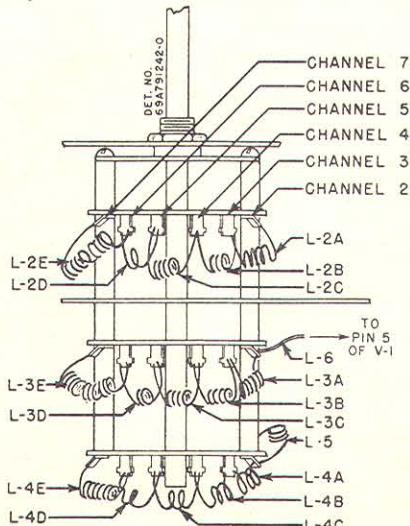

FIGURE 7. ANTENNA, RF & OSCILLATOR COILS
5. Set the generator to the oscillator frequency of channel 10 (170.35 mc) and adjust the oscillator trimmer (C-11) for zero beat viewed on the oscilloscope. Zero beat is indicated by the sharply defined trace that appears between the two wide traces as the trimmer is tuned through resonance. (See Figure 8 for oscillator frequencies.) Check all high channels (7-13) to determine if zero beat occurs with fine tuner within 22-1/2 degrees of mid-setting. It may be necessary to adjust coil L-5 (high band oscillator coil, Figure 7) to bring channel 13 within this range. Adjustment is made by compressing or spreading the coil with an insulated screwdriver. If L-5 is adjusted, it may be necessary to retune trimmer to channel 10 to bring channels 7 to 10 within the 22-1/2° range.
7. Touching up a particular coil section is accomplished by spreading or compressing the individual coils. (See Figure 7 for location of various coil sections.
5. Check channels 7 and 13, noting whether the mid-frequencies of these channels produce maximum amplitude on curve. The RF coil for channel 13 (L-6) is a straight piece of wire (Figure 7). As its position with respect to the adjacent lead affects the tuning of the high channels, moving it is a simple means of touching up the curve. A slight readjustment of the RF trimmer may be necessary if L-6 is moved.